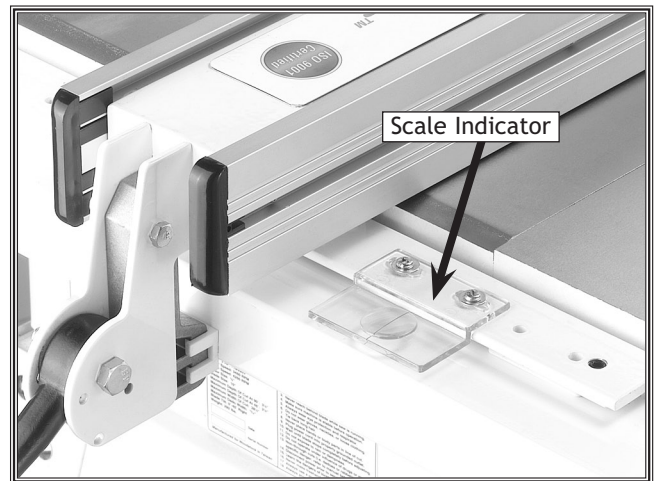

Figure 6. Scale indicator.
4. Install the clear scale indicator to the right of the fence with the #10-24 x 3/8" Phillips head screws and #10 washers (Figure 6).